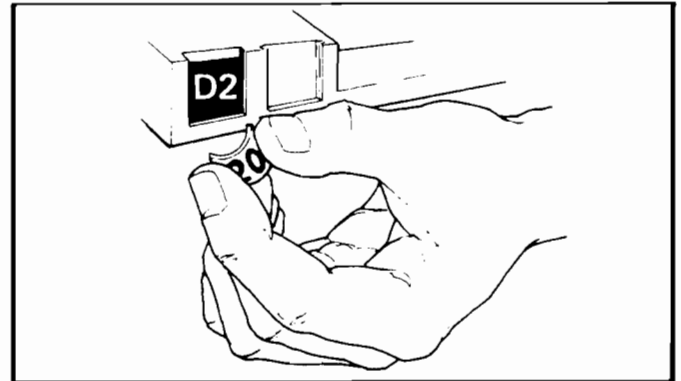

Figure 9. INSTALLING PRICE TABS.
13. **INSTALL PROPER PRICE TABS** into price tab holder for each selection in the main product area. (See Figure 9.)